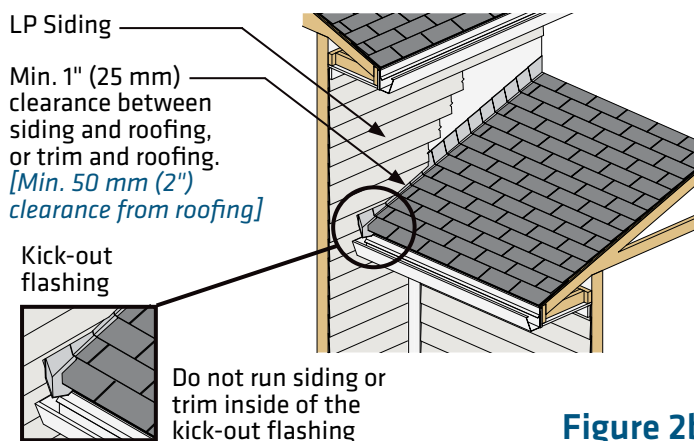

Figure 2b
- Minimum 1 inch (25 mm) clearance at intersection with roof line. *[Min. 50 mm (2 inch) clearance at intersection with roof line must be maintained between roof surface and cladding when installing cladding in Canada in accordance with the NBC, Section 9.27.2.4.(2) or local building code requirements.]* (Figure 2b)